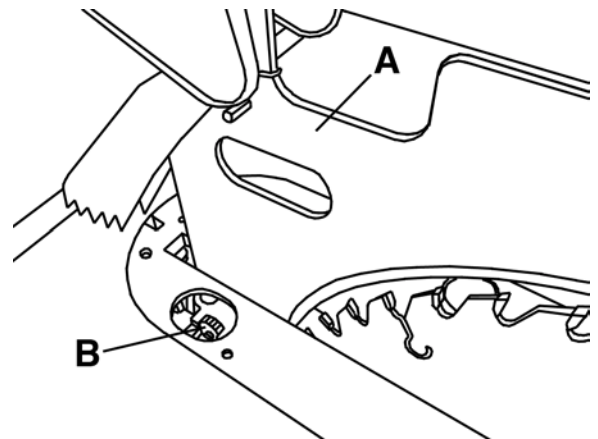

FIGURE 13
**Through-cut operations-** For all through-cut operations, the blade guard with splitter (A) Fig.13 must be installed.
Install the blade guard splitter (A) Fig.13 in between the mounting plates below the table insert. Push blade guard splitter all the way down, then pull the locking pin wheel (B) away from the blade, push blade guard splitter further down in between the mounting plates until the locking pin engages the splitter. Give the splitter and upward tug to make sure that it is properly locked. The clearance between the blade and the splitter should be between 1/8" to 5/16" (3-8mm).